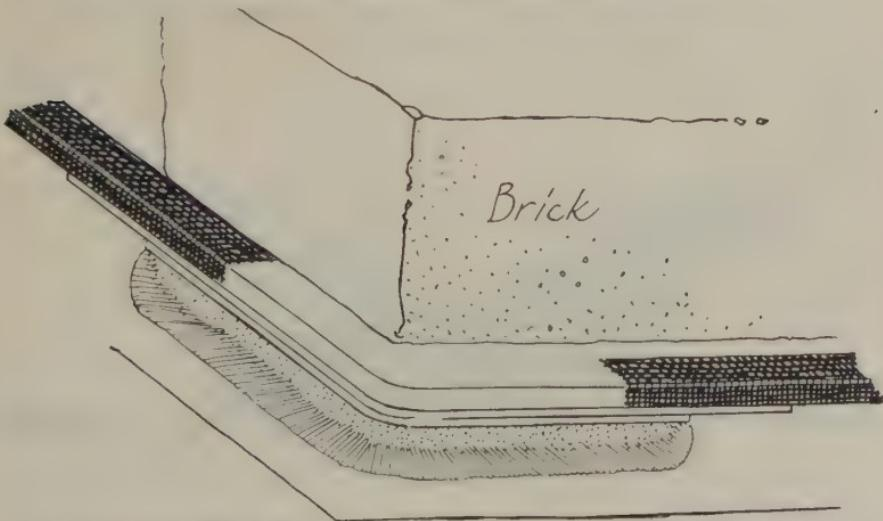

FIG. 127—CORNER IN POSITION, READY TO ATTACH TO BASEBOARD
4. When these are exactly in position, place a brick weight on each corner to hold firmly (Fig. 127). Paste-off the turn-ins of each